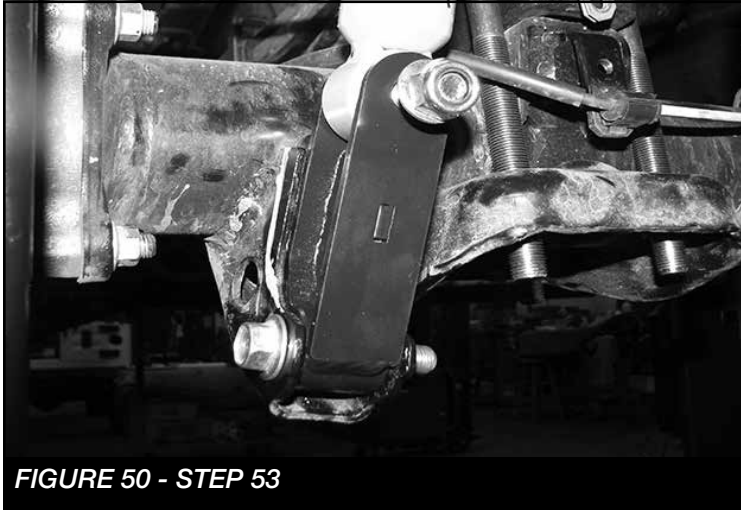

FIGURE 50 - STEP 53
53. Install the FT70213BK (rear shock ext) using the factory hardware and the M12 hardware supplied. Torque to 100 ft-lbs **SEE FIGURE 50**